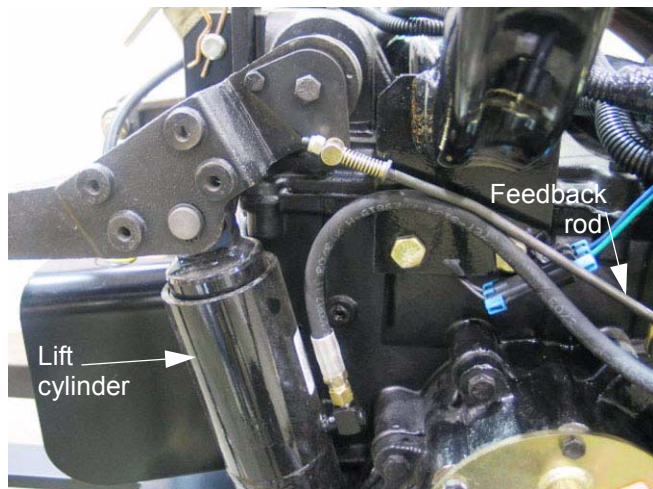

Figure 1.20
- 1.20. The lift valve sends fluid to the single-acting lift cylinder when operator demand and the feedback rod direct it to do so. See Figure 1.20.